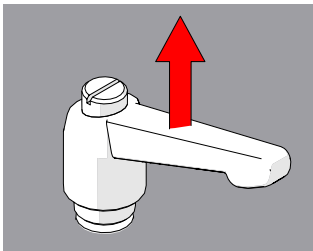

Fig. 53 - Pull ratchet handle
1. Pull the ratchet lever away from the base of which it is connected (Fig. 53).